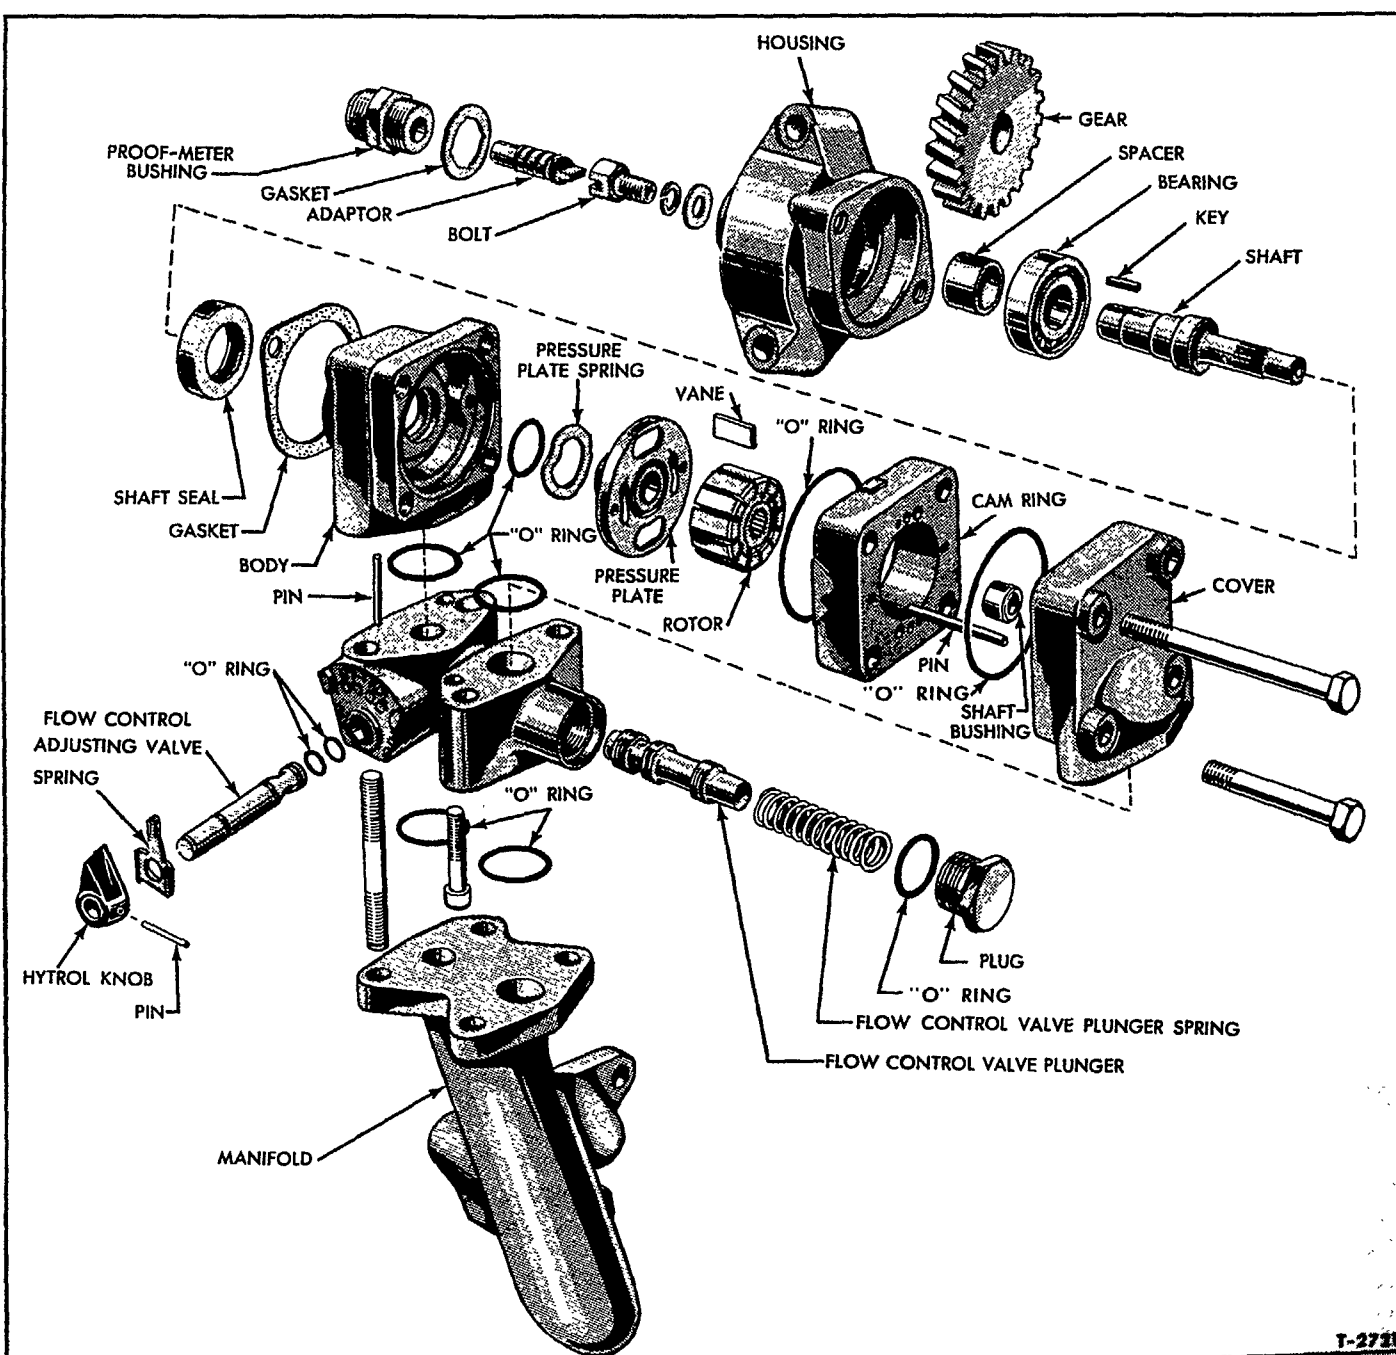

Figure 19—Vane Type Pump Disassembled—Model
1. Clamp the pump in a vise equipped with soft jaws. Remove the two Allen head bolts and remove the flow control valve body, Figure 19. Discard the two "O" rings. Remove the Proof-Meter, bushing, gasket, and adapter from the housing.
4. Position the spring and "O" ring, Figure 19, on the pressure plate and install the pressure plate in the pump body.
11. Secure the gear to the shaft with a flatwasher, lock washer and bolt, Figure 19.